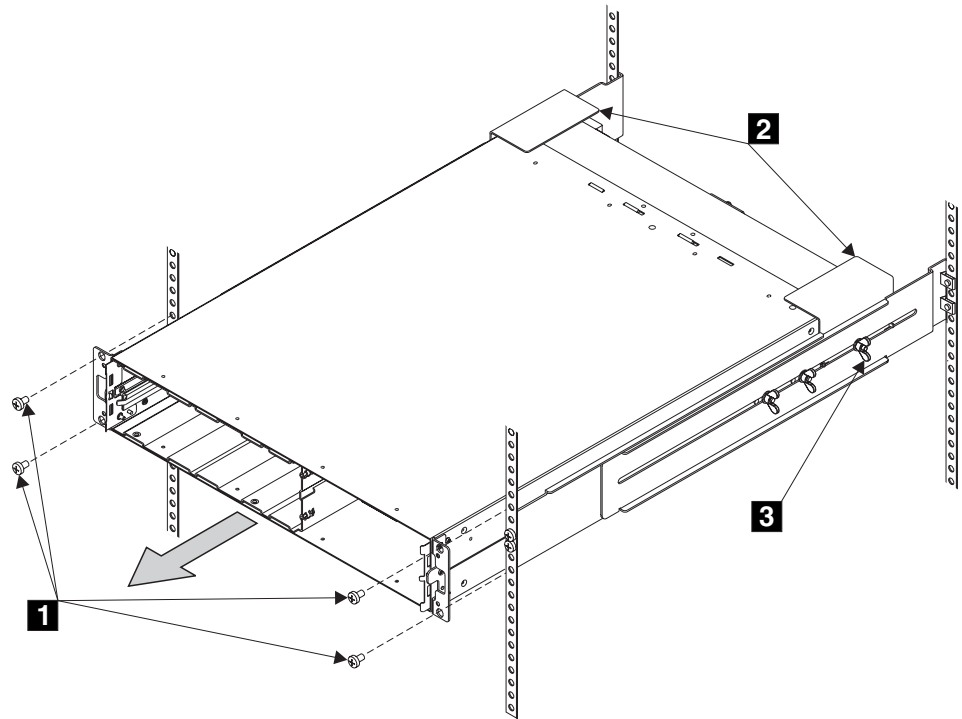

Figure 206. Removing the 2145 uninterruptible power supply
7. At the front of the 2145 UPS, unscrew the mounting screws (**1** in Figure 206).